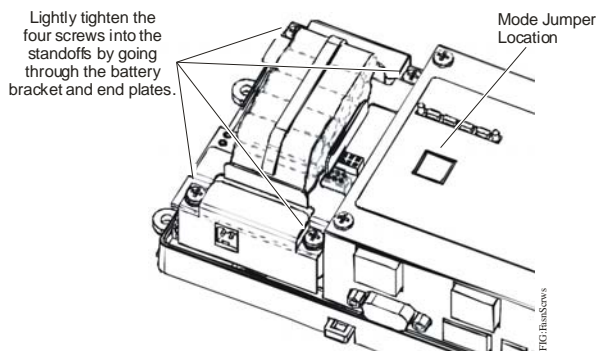

Figure 5: Refastening Screws
10. For the FX20/FX60/FX70 controller, place the four screws through the battery bracket, through the end plates, and into the standoffs on the FX Supervisory Controller (Figure 5). Hand-tighten these screws with a screwdriver.
If a modem option card is installed, and you move the FX Supervisory Controller's mode jumper to the **Serial Shell** position (see Figure 5), the FX Supervisory Controller's onboard RS-232 port becomes active immediately following a reboot. This allows an RS-232 connection to the serial shell for debugging purposes. For the FX20/FX22/FX60/FX62, the modem card is inoperative during this period. The modem card in an FX70 remains operational during this period.